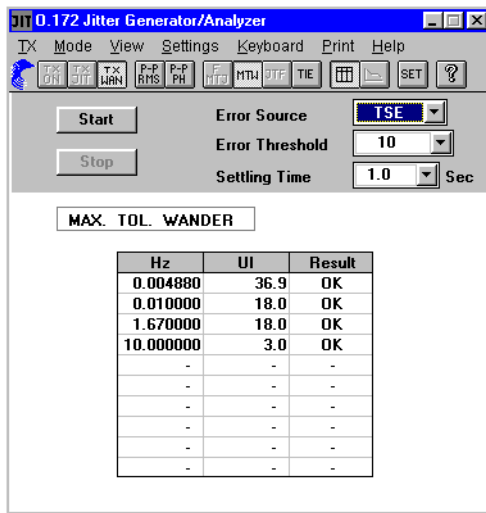

Fig. A-36 “O.172 Jitter Generator/Analyzer” window for MTW measurements
- The table (see Fig. A-36) contains combinations pre-selected by the user or the default values for wander frequencies and wander amplitudes. These are set one after the other in the order they are entered in the table when the measurement is started.